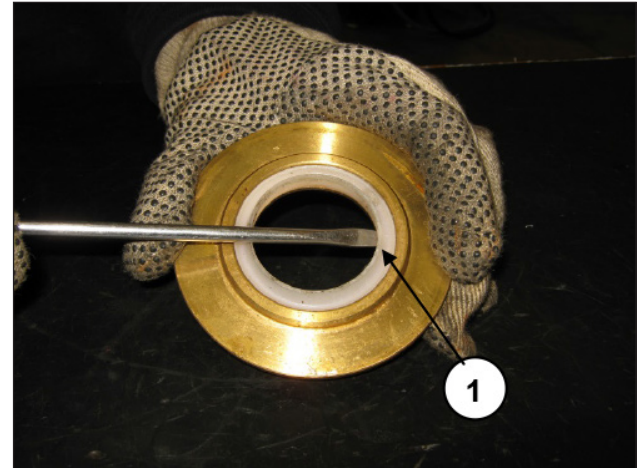

Fig. 112
Now it is possible to remove the wiper using simple tools as indicated in pos. ①, Fig. 112, taking care not to damage the housing.